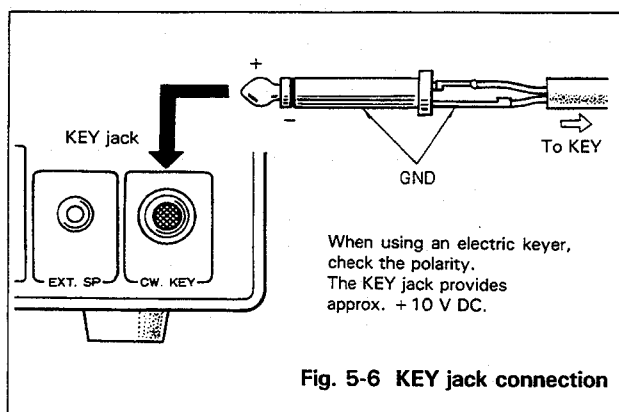

Fig. 5-6 KEY jack connection
■ KEY CONNECTION (Fig. 5-6)
Your key should be connected as illustrated in Fig. 5-6. Use shielded line from the key to transceiver.